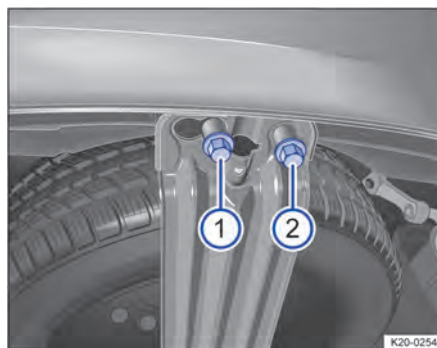

Fig. 208 Underneath the vehicle: retaining bolt ① and securing bolt ② on the spare wheel bracket
1. Use the box spanner from the vehicle toolkit to loosen the retaining bolt → Fig. 208 ① until it is free.
2. Unscrew the securing bolt → Fig. 208 ② completely.
6. Screw in the securing bolt → Fig. 208 ② fully with the box spanner.
7. Screw in the retaining bolt → Fig. 208 ① fully with the box spanner.